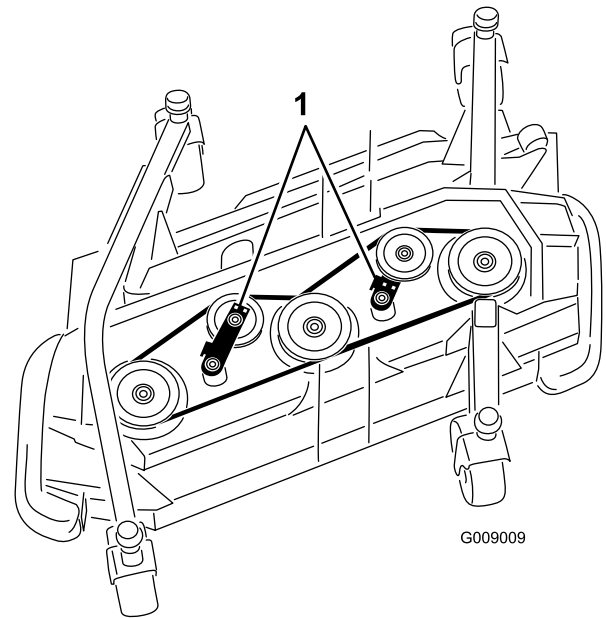

Figure 96
- Using a ratchet wrench or similar tool, move the idler pulleys away from the drive belt to release the belt tension and allow the belt to slip off the pulleys (Figure 96).